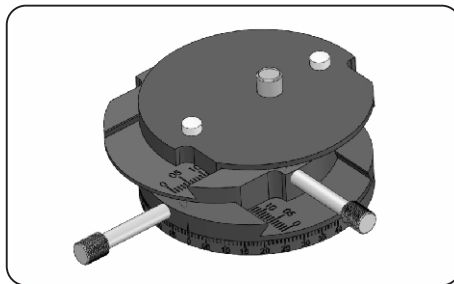
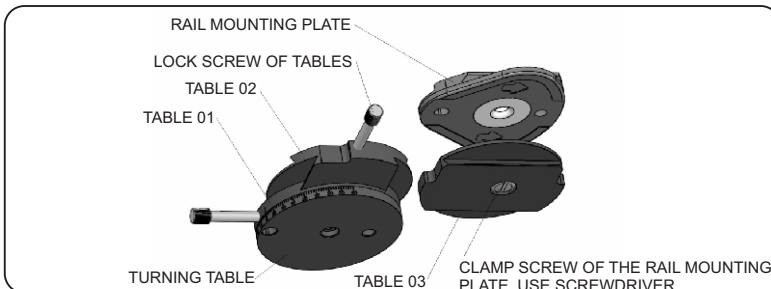

Fig. 4
Fig. 5
- The Adjustable Platform (Figure 4) used in Surgical Articulator MT is part of the project for the development of the surgical technique. On this platform the models will be mounted through the rail mounting plate, which is fixed therein by means of screw included.
The adjustable platform (Figure 4) is composed of a base for rotary motion through 360°, and three sliding tables (figure 5) which allow movement in a 25mm radius of the plate center in all directions with accurate controls and screws for locking of parts.